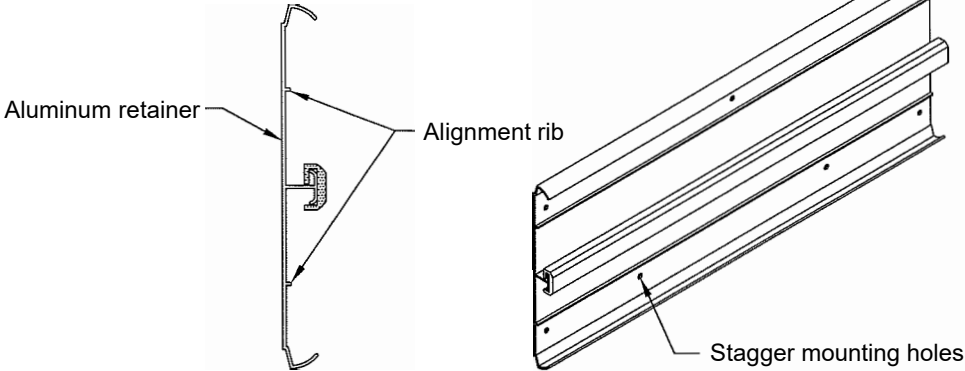

fig 2
- Step 3:** Pre-drill clearance holes in aluminum retainer using a #15 (.180") bit for #8 fastener or a #7 (.201") bit for #10 and 3/16" fasteners. Stagger mounting holes above and below the accessory alignment ribs at 16" on center such that fasteners are 32" on center along each edge of the retainer, see **fig 2**. If necessary adjust spacing to accommodate studs. Locate holes top and bottom at ends that will butt-join to adjacent retainer. Do not pre-drill at locations that will interfere with installation of molded accessories.